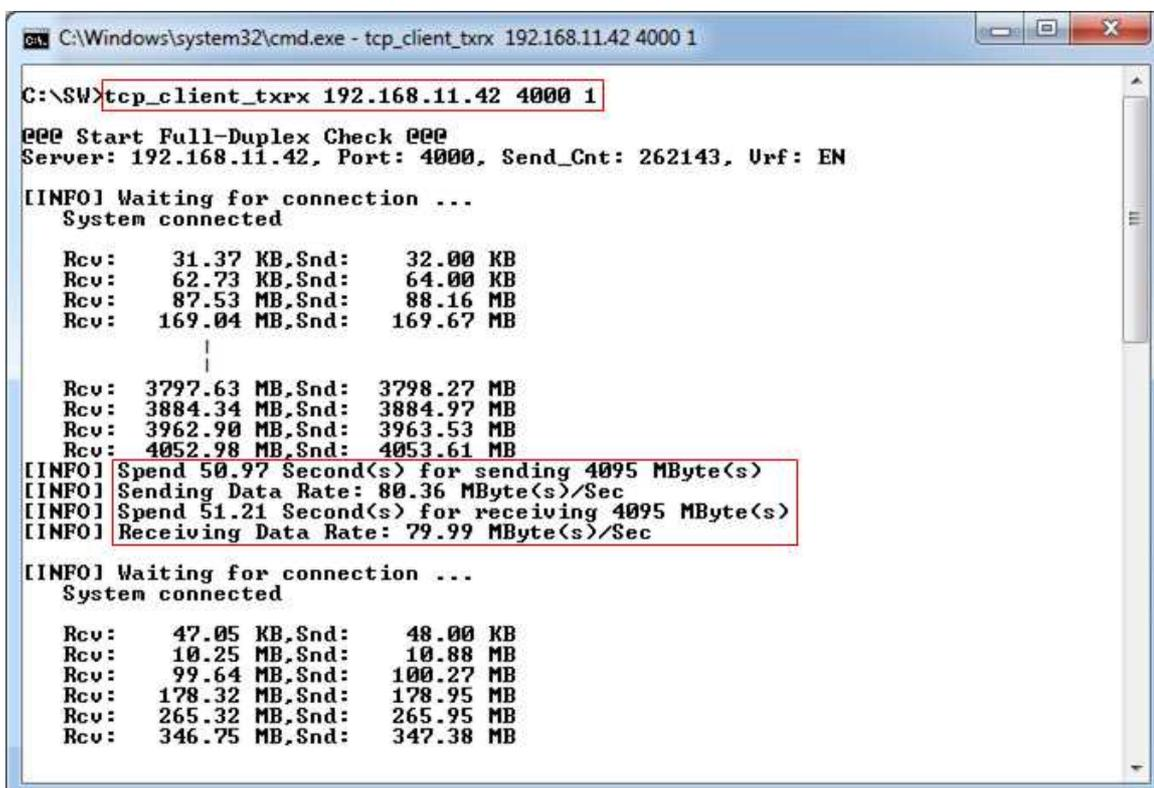

Figure 4-5 Test Result on Verification mode
- Test application displays the current number of transmit and received data every second. Time usage with performance will be displayed when end of each loop, as shown in Figure 4-5.